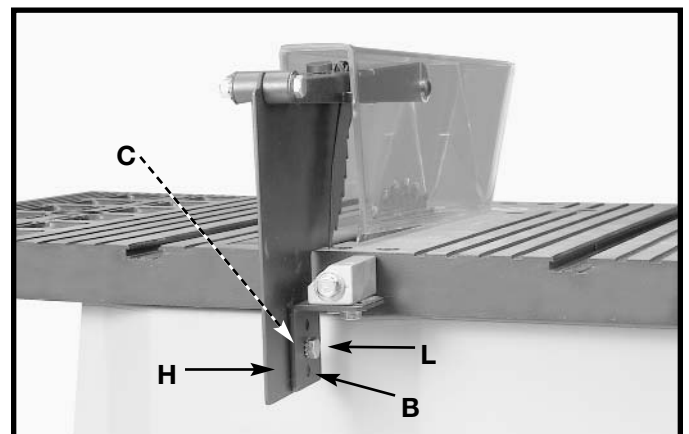

Fig. 22
6. Attach the splitter (H) Fig. 22 to the splitter support bracket (B). Place a 1/4 inch external tooth lockwasher and an M6.4 flat washer on an M6x1x20mm hex head screw (L).
7. Insert the screw (L) Fig. 22 through the splitter support bracket (C) and the splitter (H). Place an M6.4 flat washer and a 1/4 inch external tooth lock washer on the screw (L). Thread an M6x1 wing nut (M) Fig. 23 on the screw (L) Fig. 23.